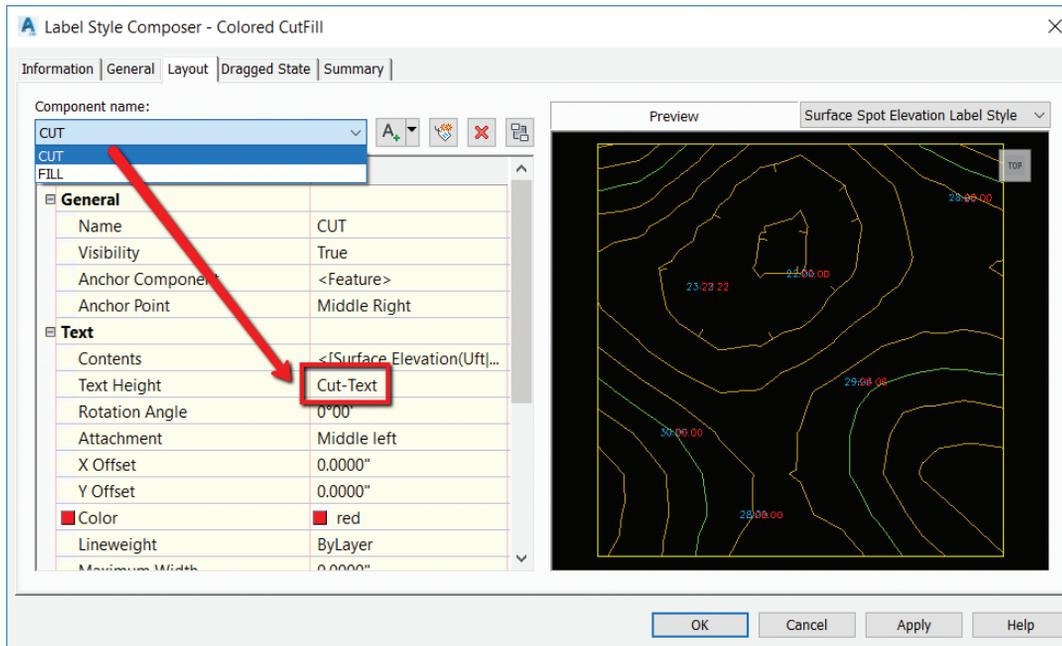

Figure 7
7. Change the FILL component to **BLUE**. See Figure 7.